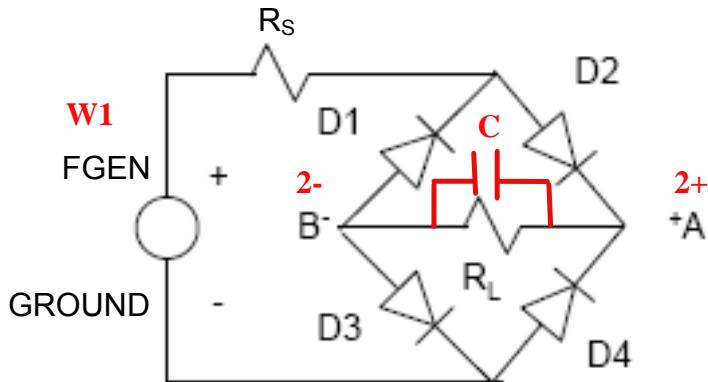

Figure 2.5: Full-wave rectifier with voltage-dropping series resistor R_S
1. Build the circuit shown in Figure 2.5. Have your laboratory instructor inspect your circuit before turning on the function generator. Use R_L = R_S = 1 kΩ.
Design a bridge-type, full-wave rectified, dc power supply (as in Figure 2.5) using a filter capacitor (either 22 μ F or 47 μ F). The maximum output voltage V_m of the rectifier is to be at least $V_{in} - 2V_\gamma$, with a ripple factor, RF, less than 0.05. The voltage, V_{in} , is the voltage supplied to your rectifier circuit after the voltage drop across the resistor R_S .